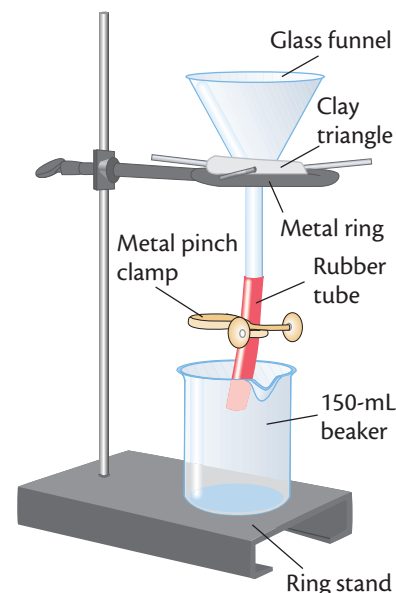

Figure 2 Funnel in clay triangle.
- Place a funnel in a clay triangle supported by a ring and ring stand. See Figure 2. Attach a rubber tube to the funnel tip as shown.
18. Place the funnel in a clay triangle supported by a ring. See Figure 2, page 9. Lower the ring so that the funnel stem extends 2 to 3 cm (centimeters) inside a 150-mL beaker.